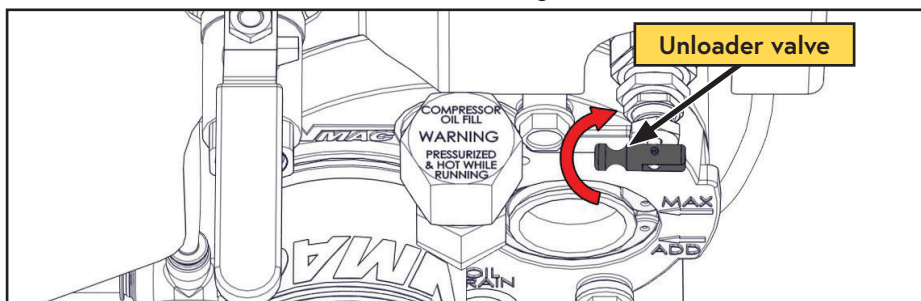

Figure 23 — Unloader valve
- ☐ Release the tension on the unloader valve (Figure 23).